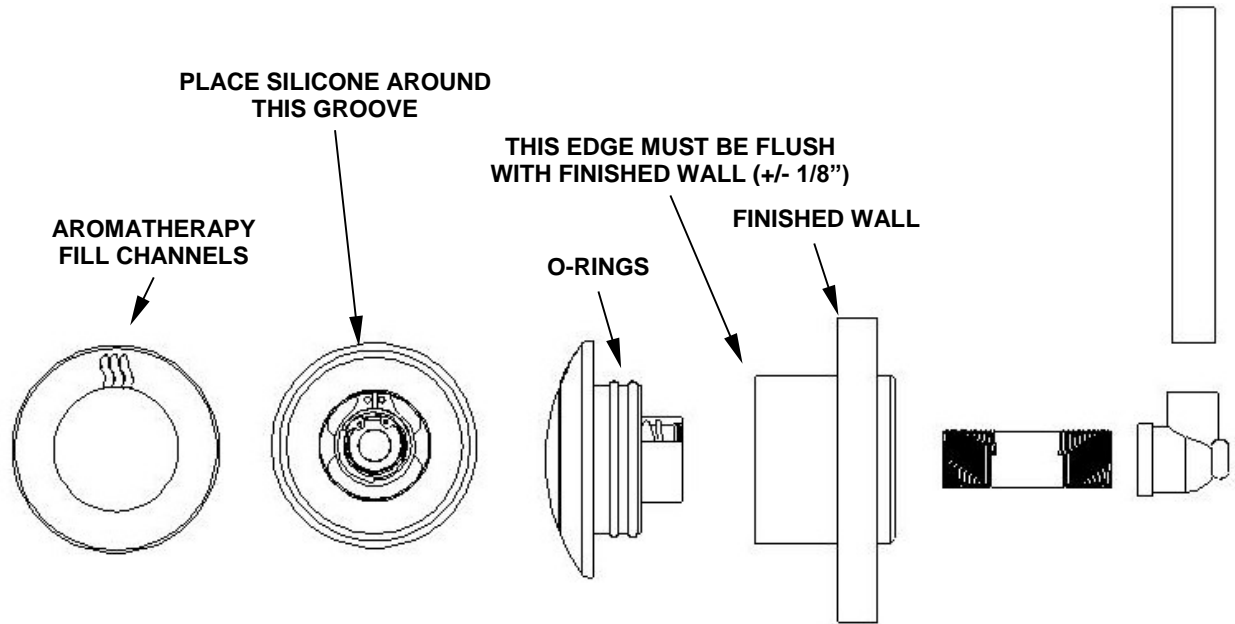

Figure 5
3. Final Installation when installing the Steamhead into the housing be sure that the aromatherapy fill channels are facing upwards see Figure 5. To ensure that no moisture gets behind the Steamhead and into the wall, place a generous bead of waterproof silicone around the Steamhead, use the machined groove (located on the back of the Steamhead) as a guide. Be sure that within the housing there isn't any debris, and the two O-rings are in place on the Steamhead. Slide the Steamhead into the housing until the Steamhead is tight against the finished wall. You may need to wipe away any excess silicone. Use Figure 5 as a reference to these steps.